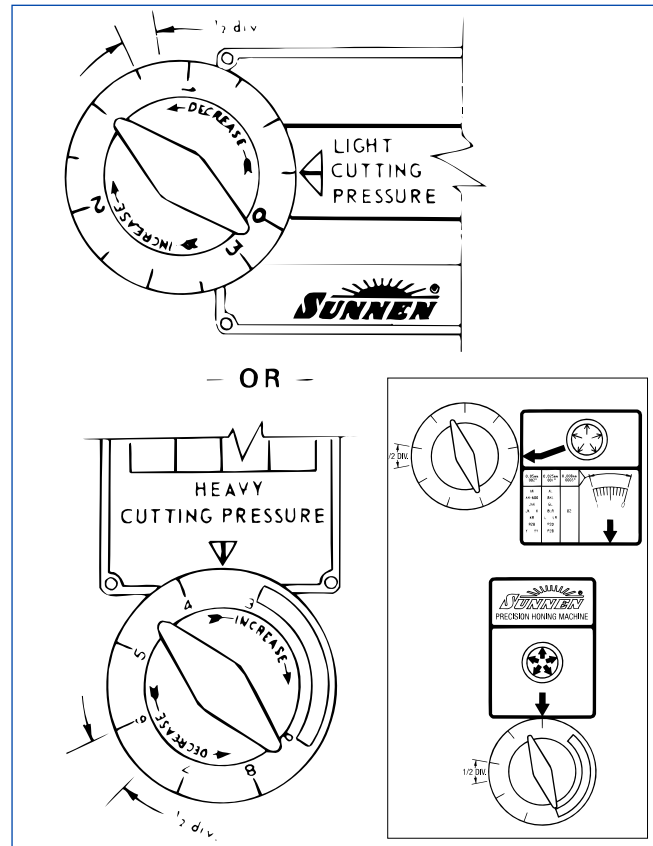

FIGURE 3-4, Cutting Pressure
24. The cutting pressure should be just enough to produce good cutting action. Heavier pressure may cause excessive stone wear; lighter pressure may result in stone glazing instead of cutting. Increase or decrease cutting pressure no more than 1/2 division at a time (see Figure 3-4) until most efficient pressure is established. Changing cutting pressure will cause a slight change in reading of Honing Dial. Increasing pressure results in a smaller reading and decreasing it could cause bore to go oversize. For additional troubleshooting information, see Section 5. Troubleshooting.